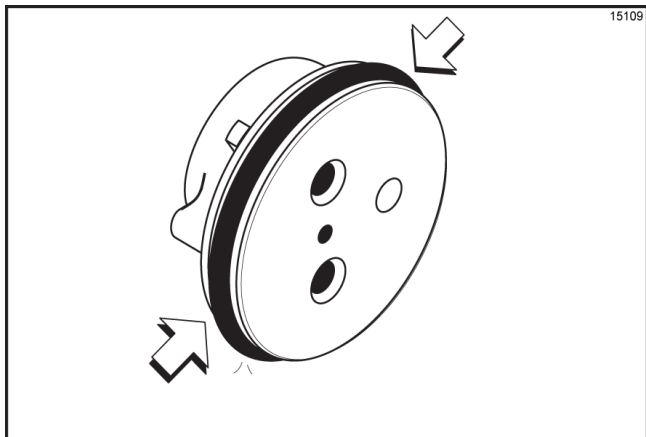

Figure 6-25
5. Assemble the valve cap. Slide the red O-ring into the groove of the valve cap. **Do not** lubricate the O-ring. (See Figure 6-25.)